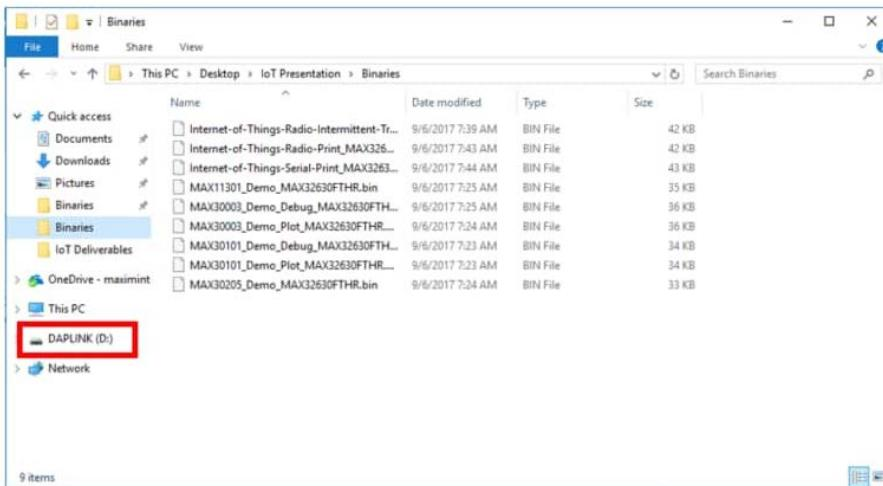
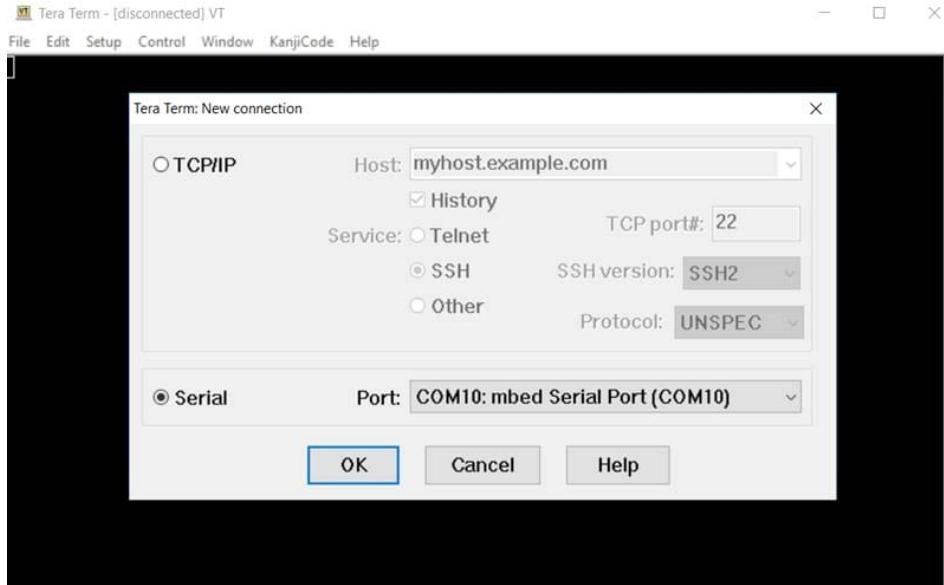

Figure 9. Drag the binary file onto the DAPLINK drive to program the microcontroller.
Figure 10. Tera Term opening window. Select the Serial radio button and the mbed Serial Port from the drop-down menu.
7. The MAX32625PICO board appears as a USB drive with the name **DAPLINK** in your native file navigation program. **Figure 9** highlights the DAPLINK drive with a red box. Program the MAX32630FTHR by dragging the binary file onto the DAPLINK drive. Red LEDs flash on the MAX32625PICO until programming is complete. This typically takes a few seconds.
9. Open Tera Term and select the **Serial** radio button and the Mbed device from the pull-down menu, as shown in Figure 9. The Mbed device could be on a different COM port than what is shown in **Figure 10**. Click **OK**.